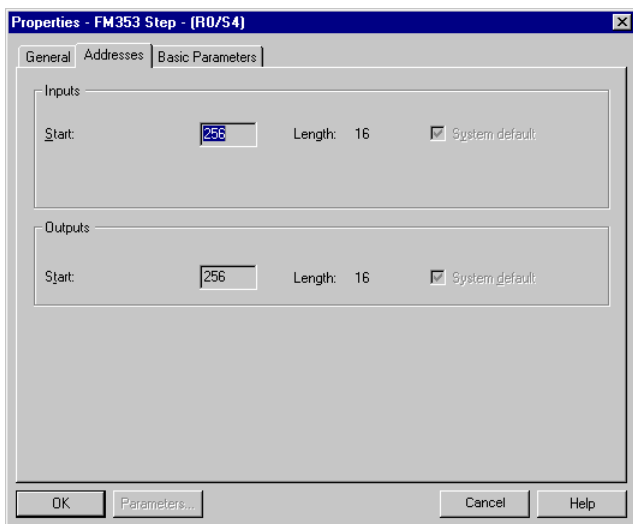

Figure 21 "Properties... Addresses" tab
5. In the "Hardware Configuration" window, double-click with the left mouse button on the "FM 353 for Step Motor" item. This opens the "Properties - FM 353 Step ..." dialog box (Figure 21).
6. Click on the "Properties... Addresses" tab (Figure 21). This displays the base address of the controller board specified by the slot.